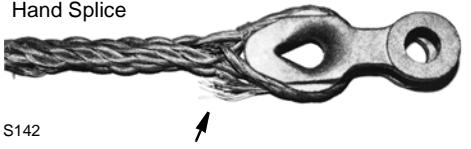

FIGURE 11
- Standing Ropes (pendants) — more than two broken wires in one lay length in sections beyond the end attachment, or more than one broken wire at the end attachment (see Figure 11).